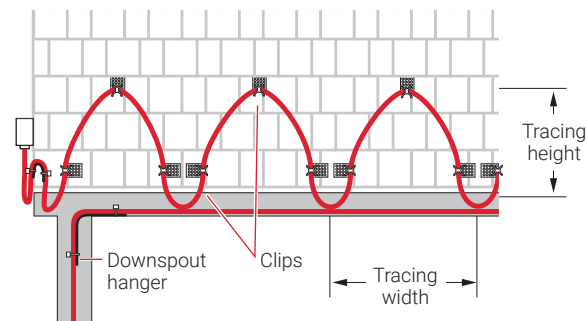
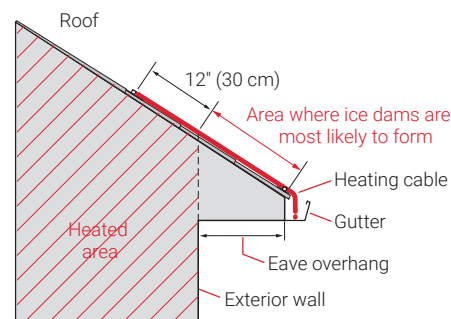

Fig. 5 Front view of roof with IceStop system
Fig. 6 Side view of roof with IceStop system
Fig. 5 and Fig. 6 below illustrate several important terms:
- Run heating cable up the roof until it is 12 inches (30 cm) past the exterior wall into the heated area (see Fig. 6 on page 8).
- Run the heating cable up the seam until it is 12 inches (30 cm) past the exterior wall and into a heated area, Fig. 6 on page 8.